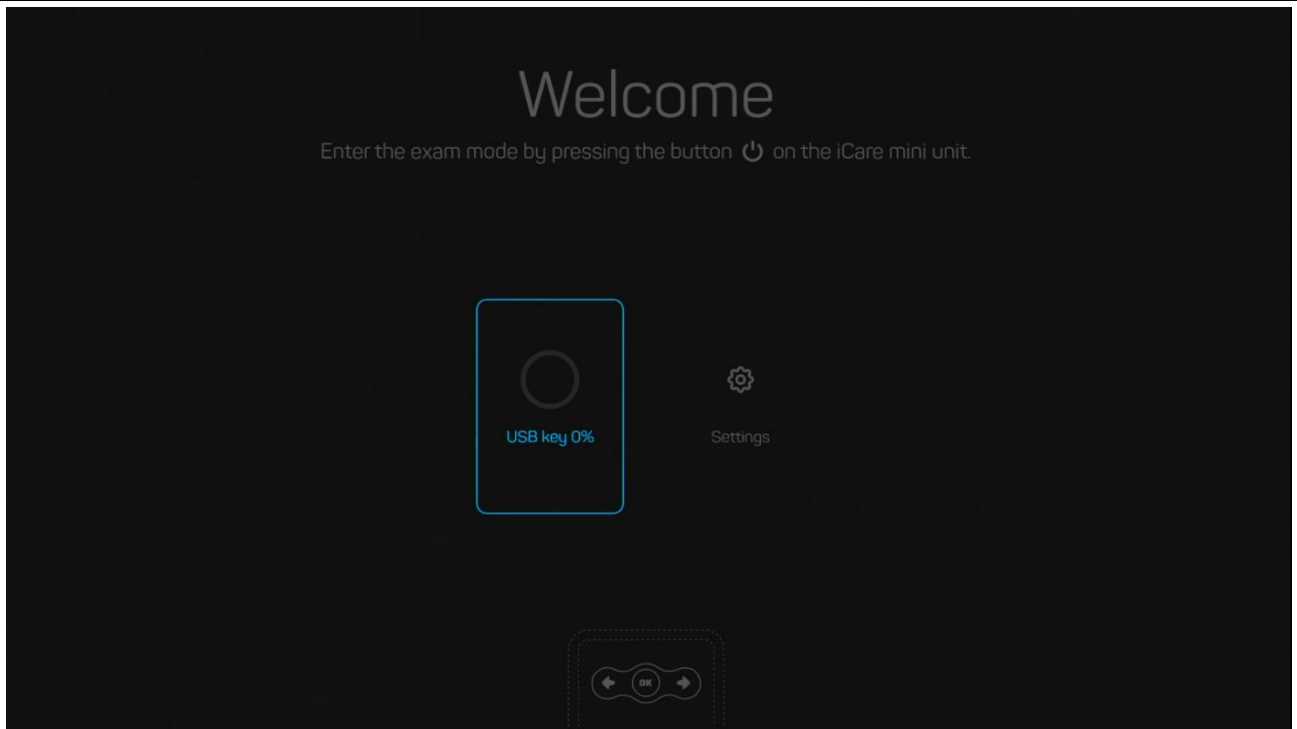

Figure 5: Welcome menu
- The welcome screen appears on the monitor (see Figure 5).